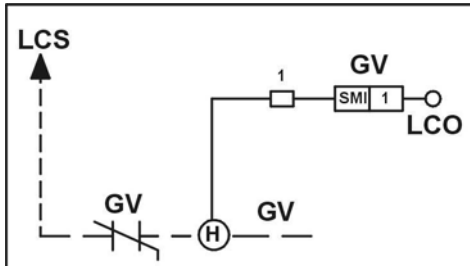

Figure 5-9
B. Governor Wiring two 18 gauge wires are required from the electrical safety switch on the governor to the controller. See [Figure 5-9.]